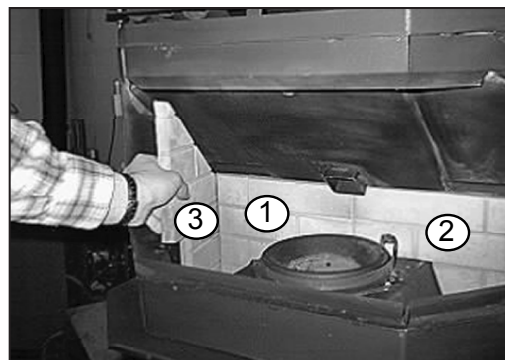

Figure 20.2
4. Place left side brick along left side of firebox, making sure chamfered (beveled) back edge of brick fits snugly next to rear brick. **Figure 20.2**.